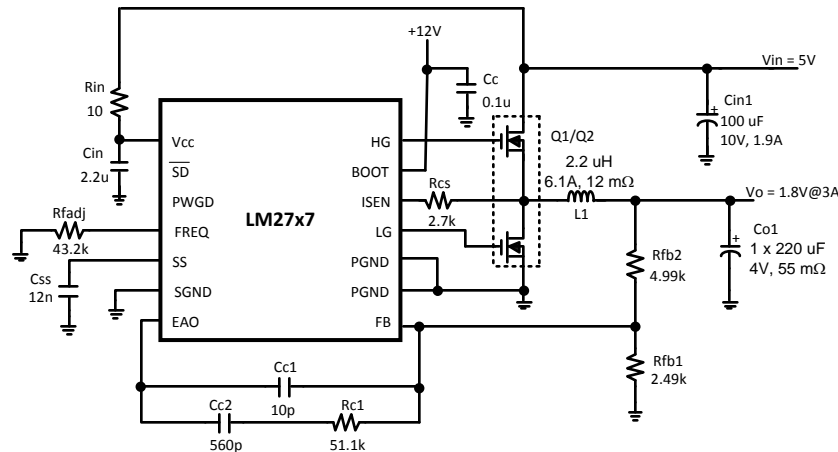

Figure 27. 5V to 1.8V, 3A, 600kHz
The following is a design procedure for all the components needed to create the circuit shown in Figure 26 in the Example Circuits section, a 5V in to 1.2V out converter, capable of delivering 10A with an efficiency of 85%. The switching frequency is 300kHz. The same procedures can be followed to create the circuit shown in Figure 26, Figure 27, and to create many other designs with varying input voltages, output voltages, and output currents.
The example circuit of Figure 27 has been designed for minimum component count and overall solution size. A switching frequency of 600kHz allows the use of small input/output capacitors and a small inductor. The availability of separate 5V and 12V supplies (such as those available from desk-top computer supplies) and the low current further reduce component count. Using the 12V supply to power the MOSFET drivers eliminates the bootstrap diode, D1. At low currents, smaller FETs or dual FETs are often the most efficient solutions. Here, the Si4826DY, an asymmetric dual FET in an SO-8 package, yields 92% efficiency at a load of 2A.
**Table 4. Bill of Materials for Circuit of Figure 27**